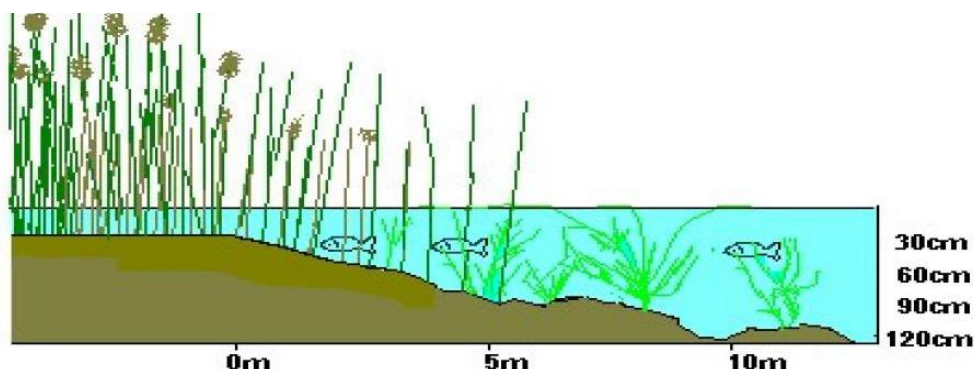

Figure 1 - Natural Marginal Planting (RSPB Reedbed Design Guidance Version 4 July 2004)
- 4.12 The proposed marginal planting will form an integral feature and is able to tolerate intermittent flows and periodic dry periods whilst still providing effective filtration. See figure 1 below.